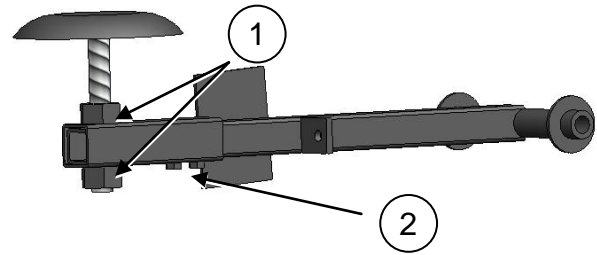

FIG. 3.3
1. Loosen nuts, 1, FIG. 3.3, on threaded rod.
1. Loosen nuts, 2, FIG. 3.3, on telescoping tube.